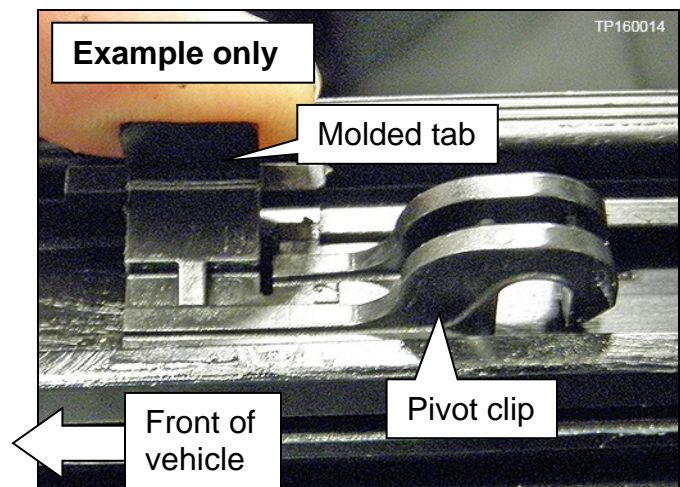

Figure 19
- Figure 19 shows pivot clip with wind deflector arm removed so that lifting molded tab can be seen.